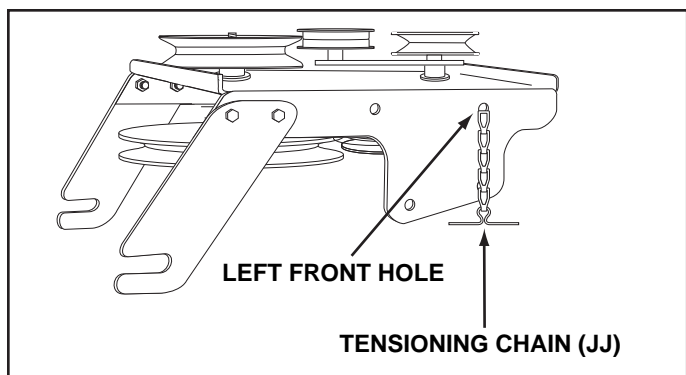

FIGURE 15
STEP 15: (SEE FIGURE 15)
- Turn the clutch/idler assembly upside down and insert the second tensioning chain (JJ) through the left front hole.